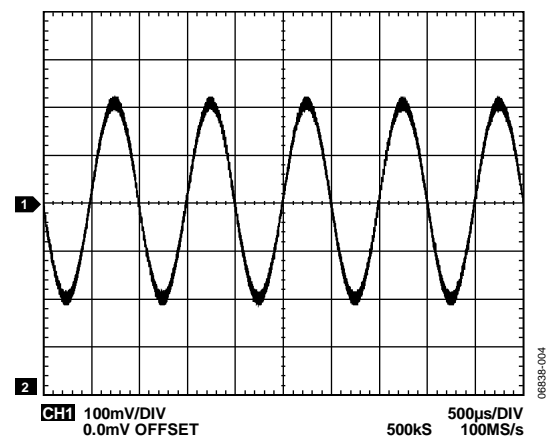

Figure 4. Output of the AD8251-EVALZ when $G = 4$ (200 mV Amplitude)
5. If the output signal is at 100 mV amplitude, set Switch 3 on the SW3 DIP switch to off and set Switch 2 to the on position ($G = 4$). The result must resemble Figure 4.